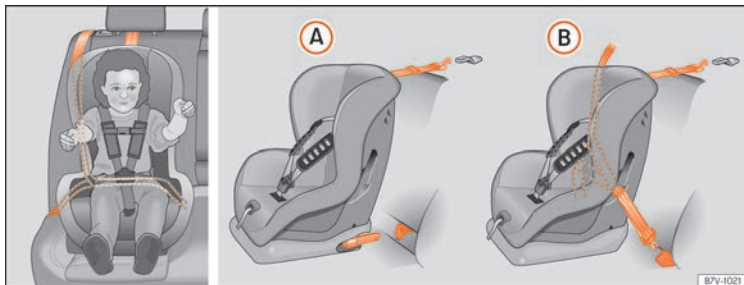

Fig. 36 On rear seats: possible assemblies of children seats.
Figure » **Fig. 36 (A)** shows the basic child restraint system mounting using lower retaining rings and the upper retaining strap. Figure » **Fig. 36 (B)** shows the child restraint system mounting using the vehicle seat belt.